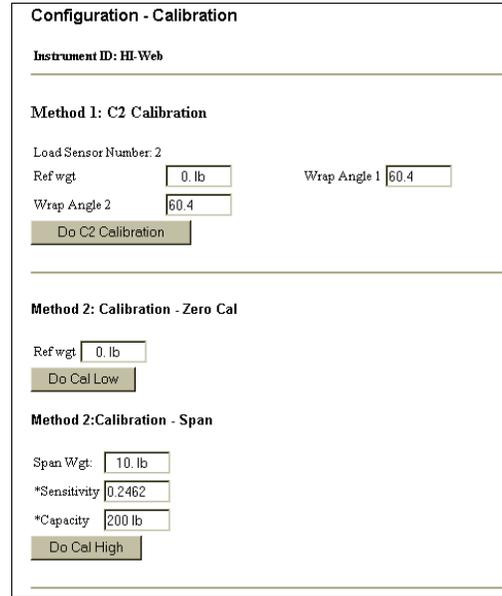

FIG. 2-44 CALIBRATION SUB-MENU/VIEW 1
Step 2. Click on Calibration. The Calibration Sub-menu appears. (See Figs. 2-44, 45 & 46)
- Step 4. Double click in the Weight text field to enter the Reference Weight or click in the Reference Weight text field. (See Fig. 2-44) Type in the reference weight which should in almost all cases be 0.00.